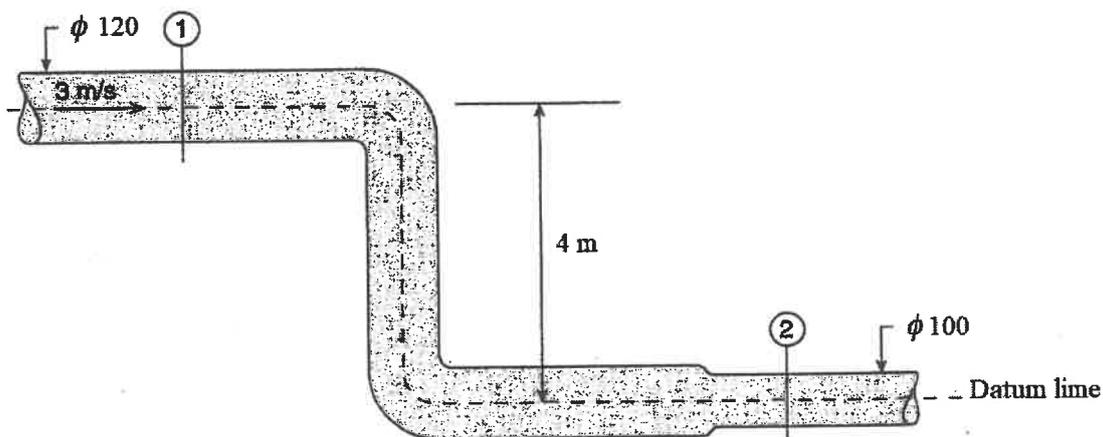

Figure 1
- (b) Liquid of density 790 kg/m^3 flows through a pipe system shown in Figure 1. The diameter of the pipe at point ① is 120 mm and 100 mm at point ②. The gauge pressure at point ① is equal to 65 kPa and the velocity is 3 m/s. Calculate:
- iii. the pressure at point ② using Bernoulli Equation (neglect losses). (4 marks)